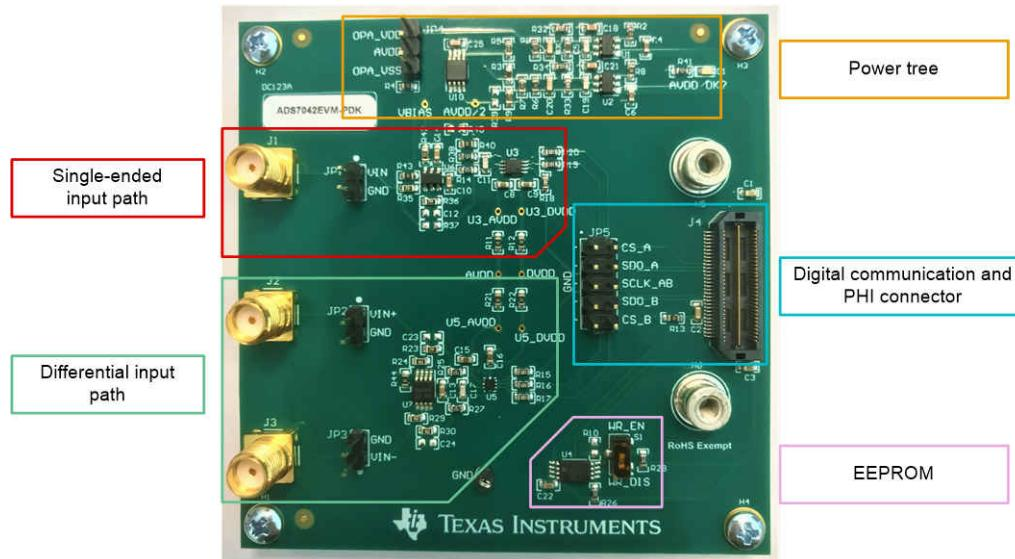

Figure 2-1. Important Subsections of the ADS704X-5XEVM
Each ADS704X-5XEVM board includes the peripheral analog circuits and components required to extract optimum performance from each ADC signal chain. Important portions of the EVM are highlighted in Figure 2-1, and described in the subsequent sections.
As shown in Figure 2-1, the ADS704X-5XEVM has two analog input paths: a single-ended input path highlighted in red, and a differential input path highlighted in green. SMA connectors and headers are included on each path to connect external signals. These signals feed into a driver amplifier and then to one of two ADC footprints, where the digital output is supplied to the PHI via J4.
1. Set switch S1 to write enable by pushing the switch closest to the *WR_EN* silkscreen text (see Figure 2-1)